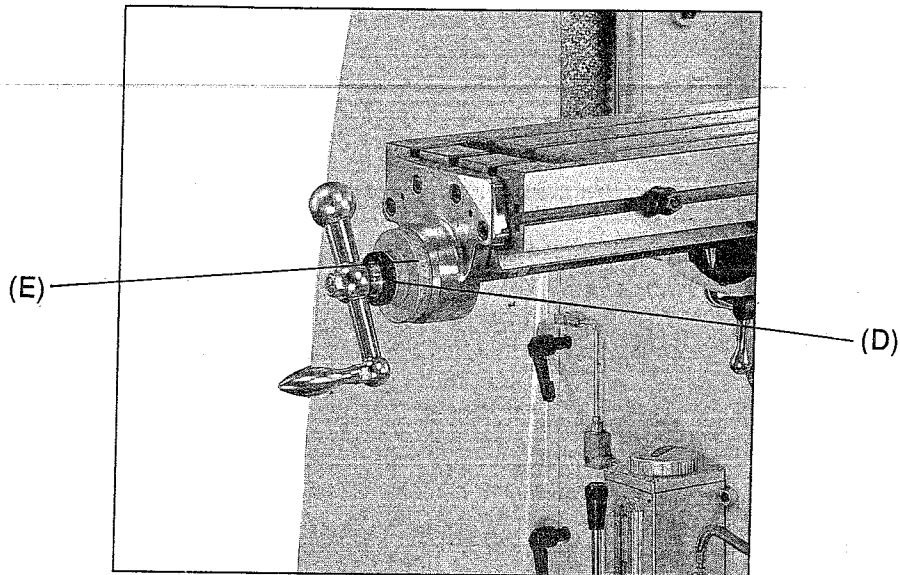

Figure 18
(2) Zero Positioning (as shown in Figure 18) of Dial Ring of Table Feed.
- a. Loosen the nut (D) of dial ring.
- b. Turn the dial right (E) to zero position.
- c. Lock the nut (D) of dial ring.
(3) Setting of Sliding Surfaces of Work Table, Saddle and Knee: